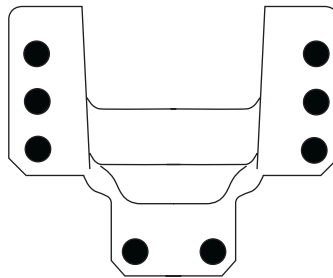

FIGURE 1
- Black dots represent the location of eight (8) blind rivets (W708777-S900C) to side sill. (Refer to Figure 1).